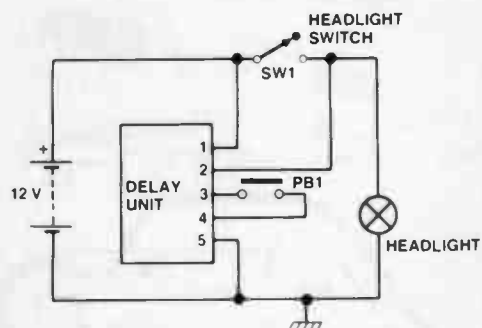

Figure 3. Connection of the delay unit to a car system where the headlights are independent of the ignition switch
When it comes to installing the unit, note that two methods of connection to the vehicle are possible. On some vehicles the headlight switch is connected directly to the battery so that the headlights operate even when the ignition is turned off (see Figure 3).
The voltage across the motor terminals during operation of this circuit will appear something like that shown in Figure 3. (Note that the vertical axis is not to scale.)
Figure 3. Waveform of the voltage across the motor when using the ETI-1515 speed controller (Vertical axis not to scale.) The dashed line shows the mains input waveform
The speed of an appliance's motor attached to the project is controlled by applying the mains voltage to it at a set point of the mains positive half cycles, as seen in Figure 3. This is done by turning an SCR on at the appropriate point in the cycle. Turning on the SCR earlier in the cycle applies more voltage, increasing the speed, while turning the SCR on later applies less voltage, decreasing the speed.
Referring to Figure 3, as the mains crosses through zero, going negative, D6 (the flywheel diode) will conduct, holding the active (A) load terminal at about -0.6 V. The SCR then becomes reverse biased and ceases conducting.